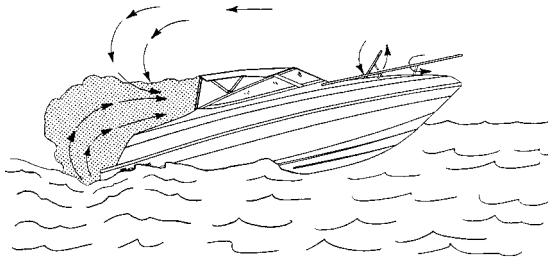

Figure B9: Backdrafting - Air flows over boat and behind transom.
Backdrafting or the “station wagon effect” is caused by air movement over or around a boat creating a low pressure area of suction area around the stern which can increase CO level on the boat. Backdrafting can be affected by relative wind direction, boat speed, and boat trim angle. See Figure B9 Backdrafting - Airflows Over Boat and Behind Transom”.
3. Canvas Configurations - Under various conditions, adding or removing canvas may raise or lower CO levels. See Figures B9, B10 & B12.